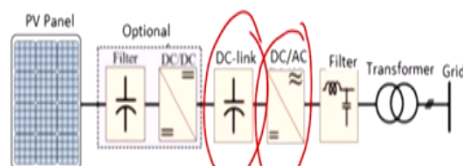

Fig.4: General scheme of PV system
- In dual stage inverters (see Fig.4), DC/DC converter is controlled by means of MPPT based control techniques in order to obtain maximum available power from PV panels while the DC/AC converter controls the grid injected current.